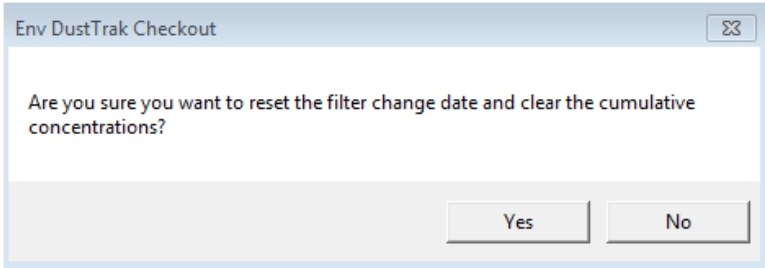

Figure 23: Replace cover
5. Replace cover and return to service (Figure 23).